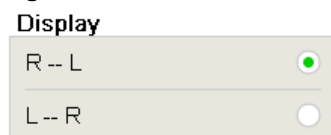

Figure 108
**Display:** Defines on which side of the screen the button and graph for the left and the right ear shall be displayed (Figure 108).